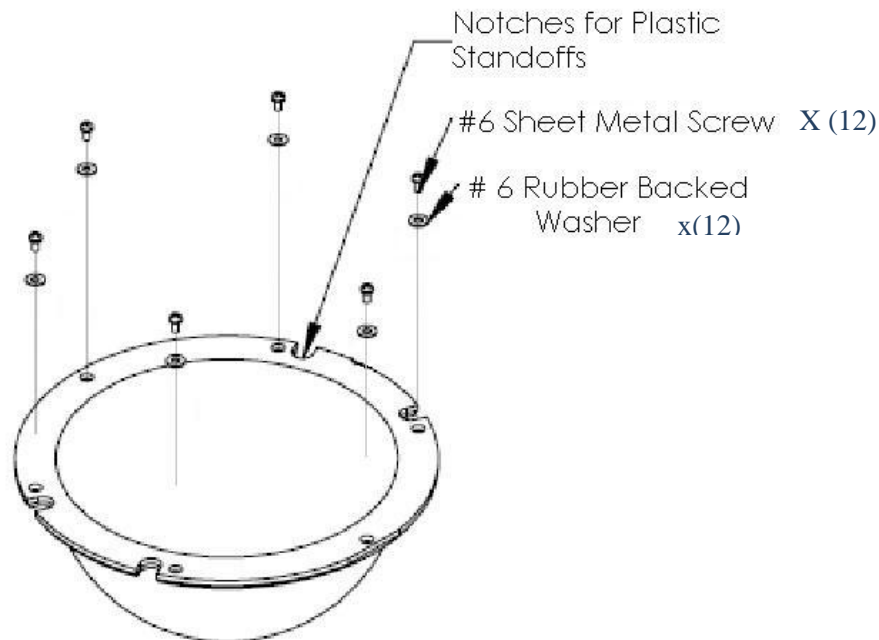
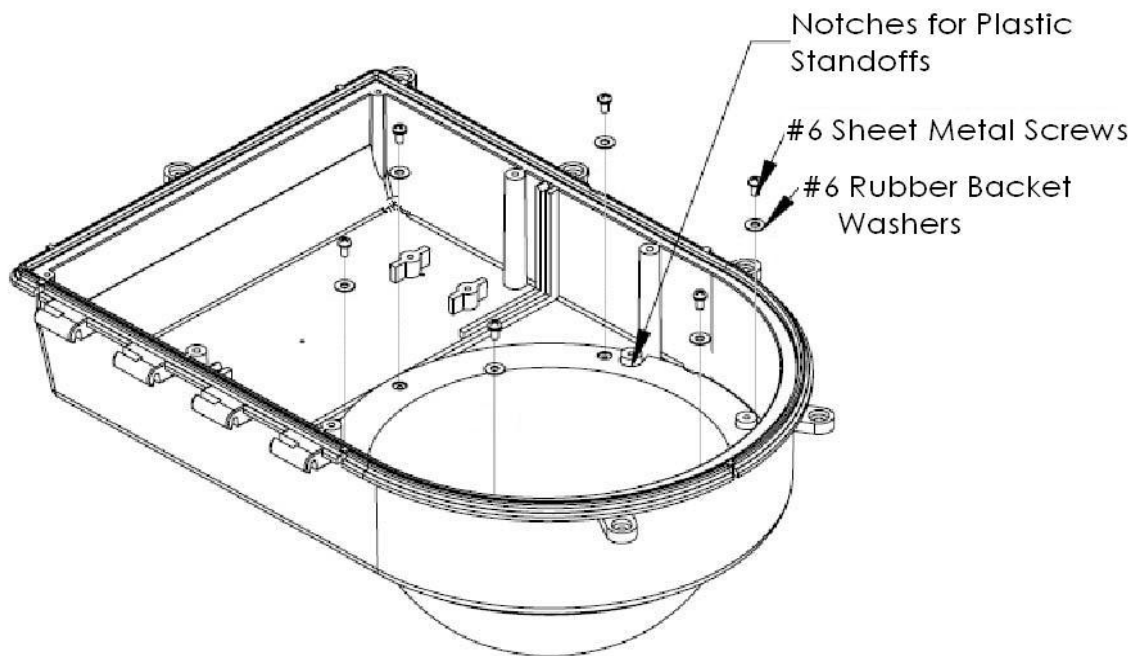

Figure 1
Figure 2
- 3) Align the 4 lens slots (see figure 1, below), with 4 studded camera mount posts on the enclosure, and 12 lens clamping posts (see figure 2).